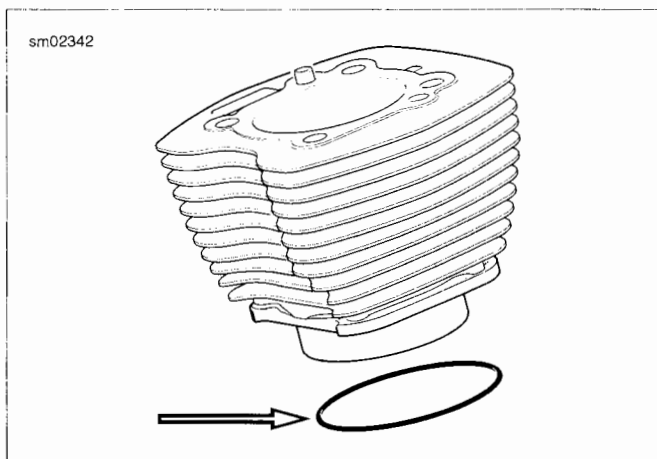

Figure 3-33. O-ring Seal For Cylinder
2. See Figure 3-33. Apply a very thin film of clean H-D 20W50 engine oil to **new** O-ring seal for the bottom of the cylinder liner. Install **new** O-ring seal.